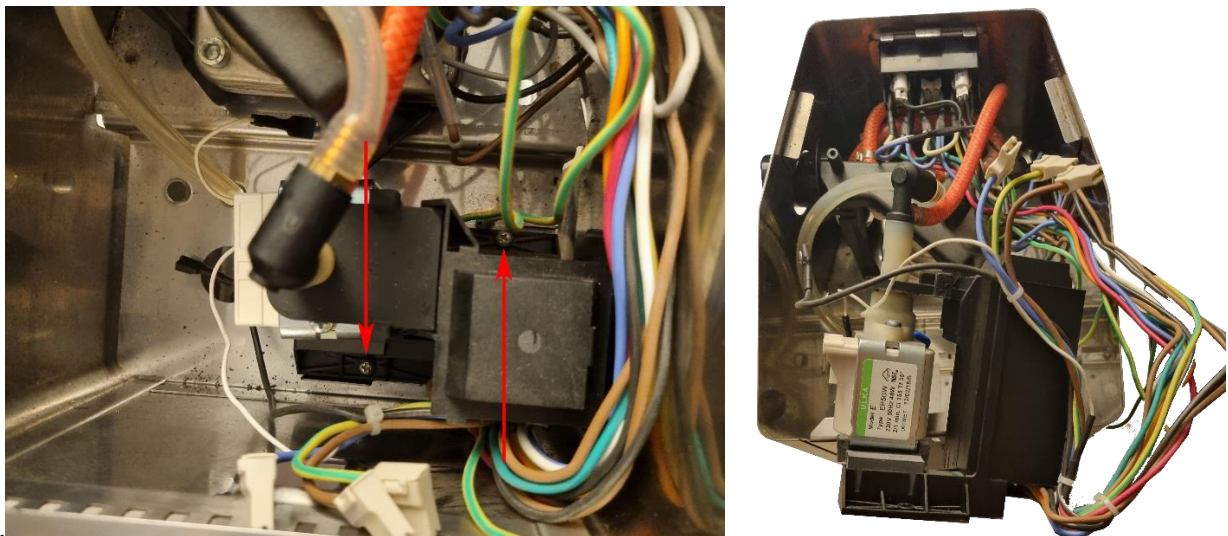
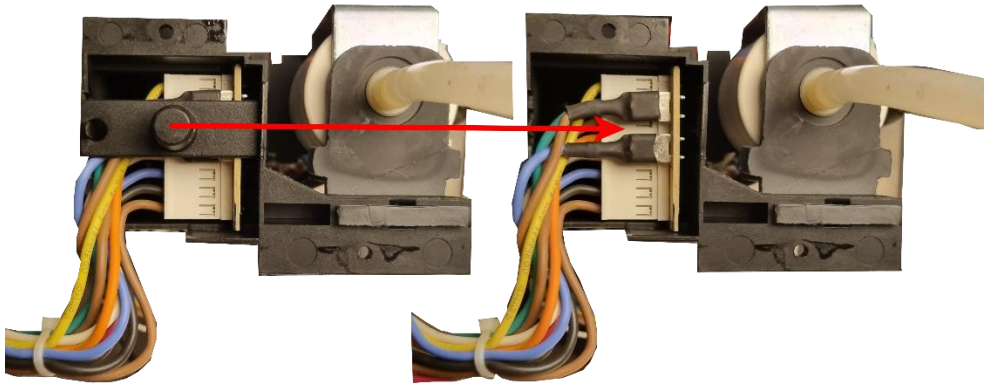

Fig. 3.2
Fig. 3.3
- To remove the electronic board, you will have to remove the pump support. There are 2 screws at the base (fig. 3.2) . Remove the plastic stopper (fig.3.3). Remove the electronic board.